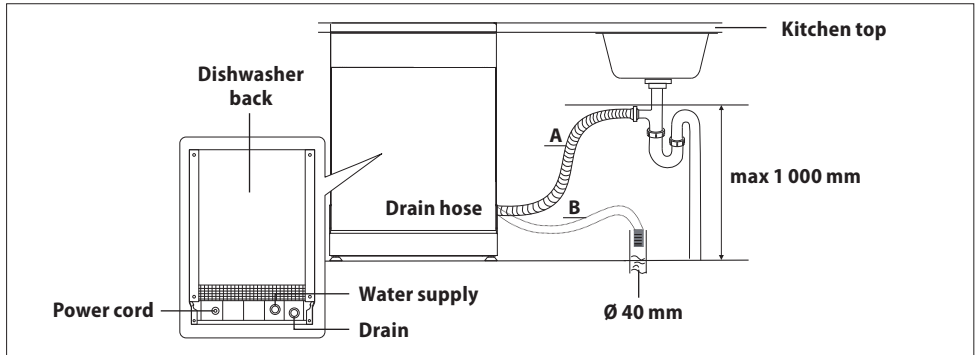

Fig. 18
5. Connect the drain hose according to Fig. 18.
- Connect the inlet hose to the tap with 3/4" thread (Fig. 18). Make sure that the inlet hose is not bent, crushed or entangled.
Connect the drain hose to the waste pipe with a minimum diameter: 40 mm (Fig. 18). Make sure the drain hose is not bent or squeezed to prevent slowing down or stopping of the water flow. The height of the waste pipe must be less than 1,000 mm (Fig. 18) and the drain hose should not be submerged in water. Secure the drain hose properly to prevent unwanted loosening from the waste pipe.